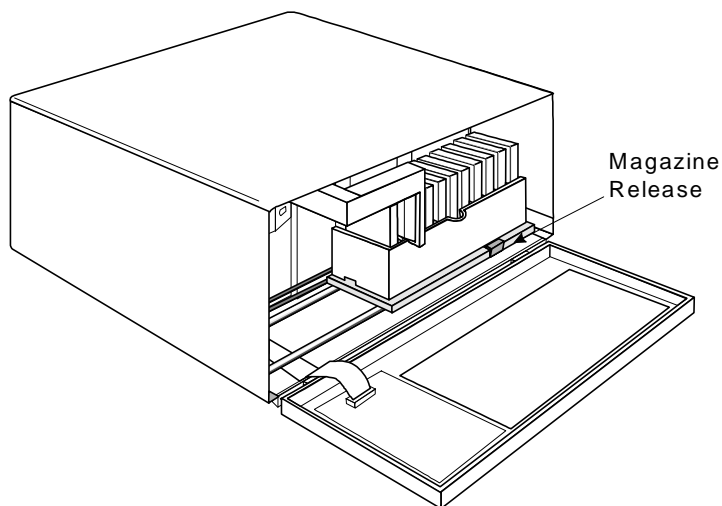

Figure 13. The Magazine Release
- ❑ Press the Magazine Release on the carriage. See Figure 13. The magazine will release from the holding pins.